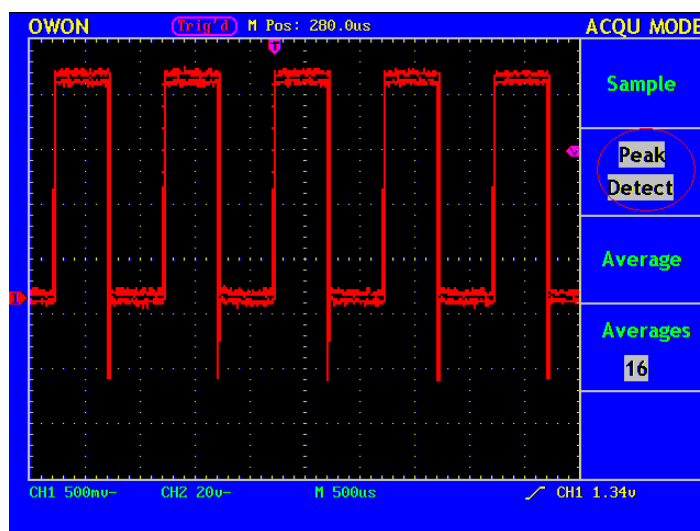

Fig.59 Signal with Noises
2. Press **F2** to select Peak Detect function. The signal displayed on the screen containing some noise, by turning on Peak Detect function and changing time base to slow down the incoming signal, any peaks or burr would be detected by the function. (See Fig.59).